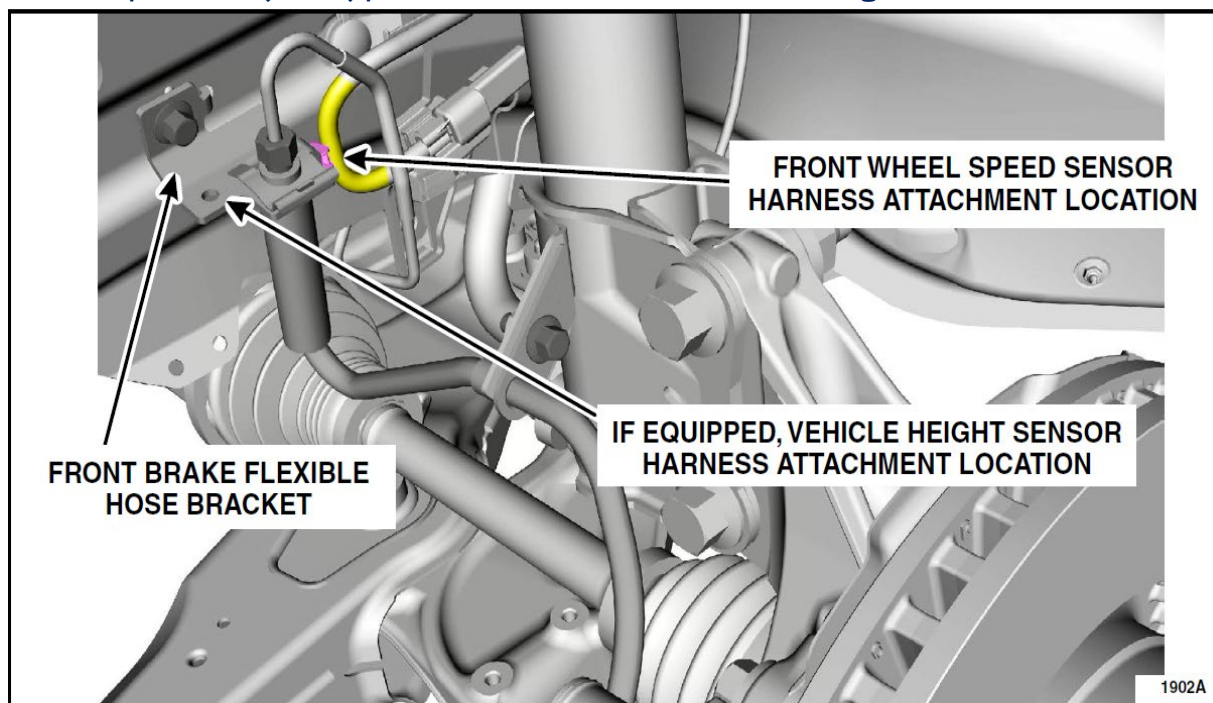

FIGURE 2
2. Replace the Right Hand (RH) and Left Hand (LH) front brake flexible hoses. Please follow Workshop Manual (WSM) procedures in Section 206-03. See Figure 2